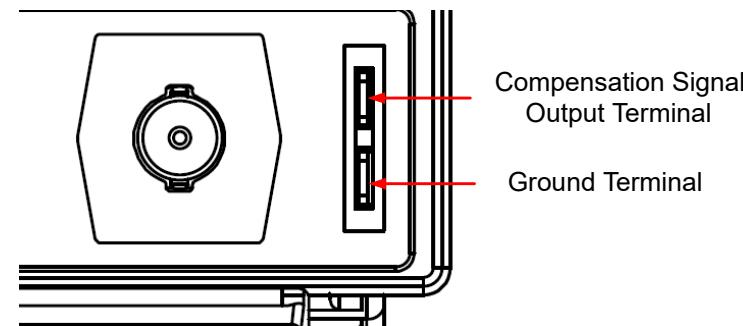

Figure 5.5 Using the Compensation Signal
2. Connect the ground alligator clip of the probe to the "Ground Terminal" as shown in *Figure 5.5*.
3. Use the probe to connect the input terminal of CH1 and the "Compensation Signal Output Terminal" of the probe, as shown in Figure 5.5.